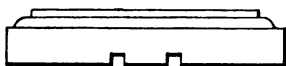
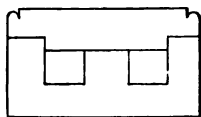

Fig. 34.—Double Wire Wood Cleat.
Fig. 36.—Double Wire Casing with Cover.
*Wood Cleats.*—Those are made in a variety of patterns, generally for double wiring as shown in Figs. 34 and 35. Casings, Fig. 36, are made single and double.